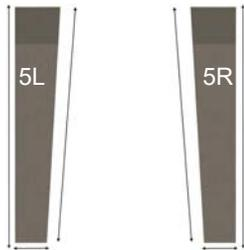

Figure 12. Upper Sidewalls –Top View
F. Install upper sidewalls (5L) and (5R), ensuring the correct piece is placed in position. The correct position is when the inner wall, outer wall and front are parallel with the middle wall pieces. Place each so the front is set back 3½ inches from the front of the middle wall piece below. See Figures 12 & 13.